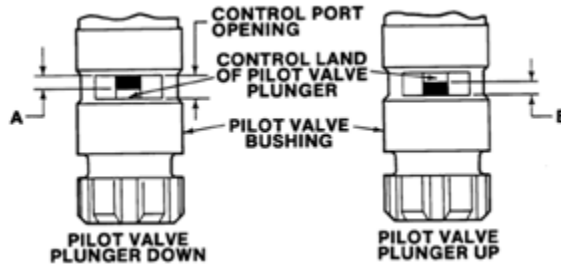
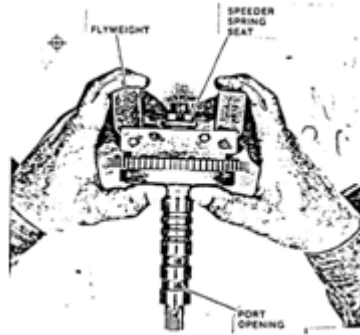

Figure 5-31. PVP Adjustment
Figure 5-32. Flyweight Pressure
16. Adjust PVP nut until PVP control land is centered in the control port of the PVP bushing. See Figure 5-31 and adjust the PVP nut until dimensions 'A' and 'B' are equal. Make the adjustment (Figure 5-32) while keeping a slight pressure on the flyweights in both directions. Pin nut in position once adjustment is correct.